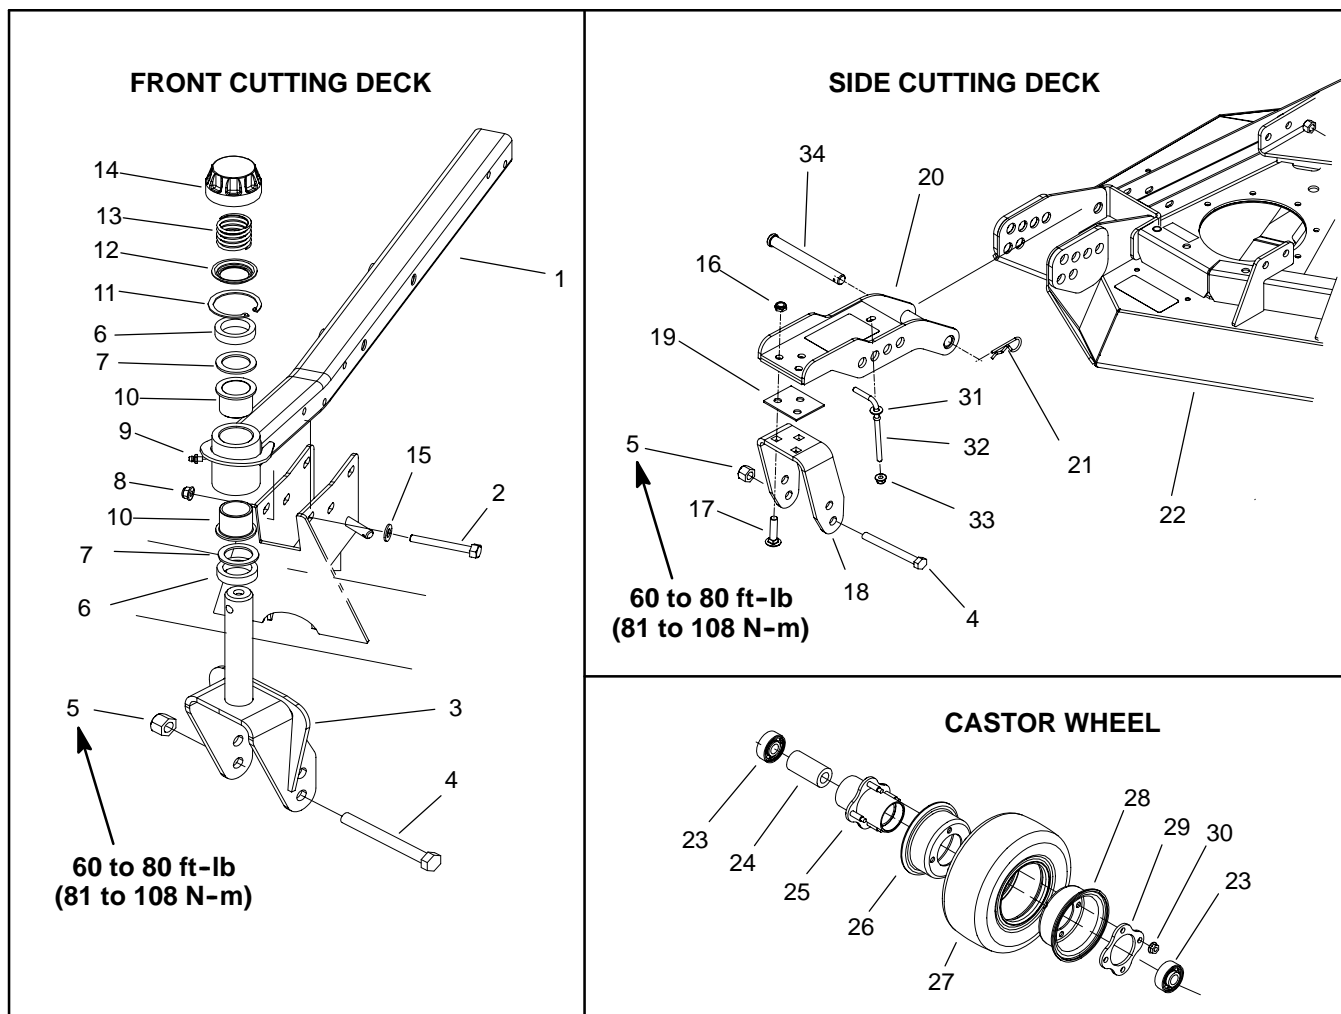

Figure 17
1. Disassemble castor wheel as needed using Figure 17 as a guide.
1. Assemble castor wheel using Figure 17 as a guide.
3. Torque castor wheel lock nut (item 5) from **60 to 80 ft-lb (81 to 108 N-m)**.